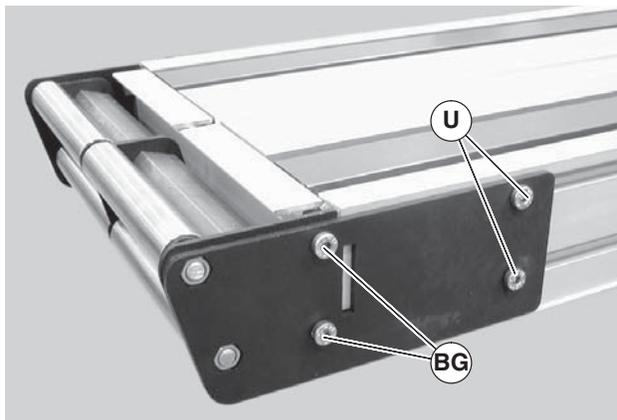

Figure 66
- On one side of conveyor, loosen the two (2) back fastening screws (Figure 66, item U), and remove the two (2) front fastening screws (BG).